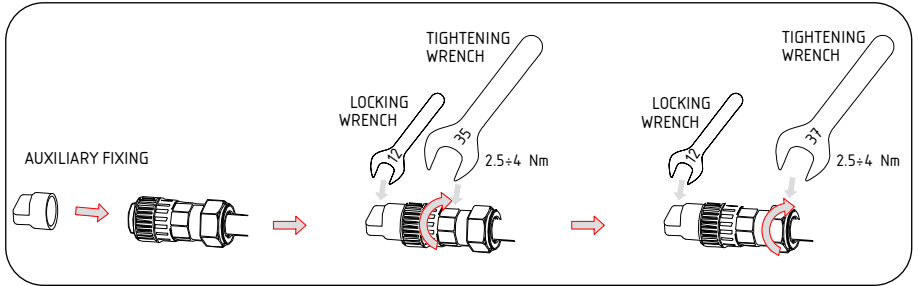

Figura 22 - Assembly AC terminal
- Clip plastic fixture (auxiliary tighten) in socket element, tighten adapter in socket element, then tighten swivel nut with 2,5-4 Nm torque as shown in Figura 22.
- Connect AC connector with inverter, then tighten AC connector for clockwise (see Figura 22): a slight clicking sound indicates connection succeed Figura 22.